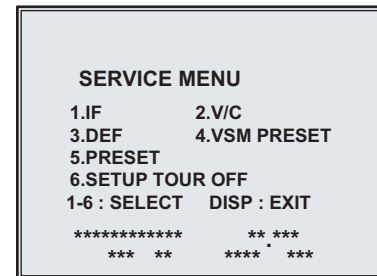

Fig.1
- (1) Press the **[DISPLAY]** key and the **[PICTURE MODE]** key of the REMOTE CONTROL UNIT simultaneously.
- (2) The SERVICE MENU screen of Fig. 1 will be displayed.
Verify what to set in the SERVICE MENU, and set whatever is necessary (Fig.1).